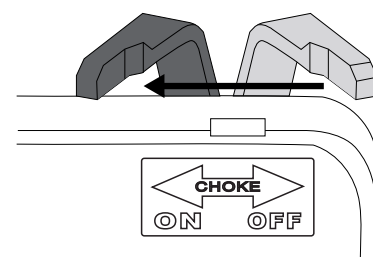

Figure 10 - Choke - ON
4. If the engine is cold, move the choke lever to the **ON** position (see Figure 10 below). If the engine is warm turn choke **OFF**.